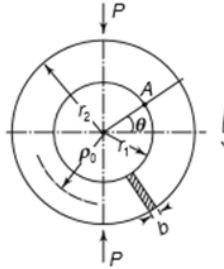

Figure 3
- (b) A ring with a rectangular section is subjected to diametric compression, as shown in Figure 3. Determine the bending moments and stress at point A of the inner radius across a section  $\theta$ .  $r_1$  and  $r_2$  are the inner and external radii respectively. If the ring is subjected to diametric compression. Determine the change in the vertical diameter. [7M]